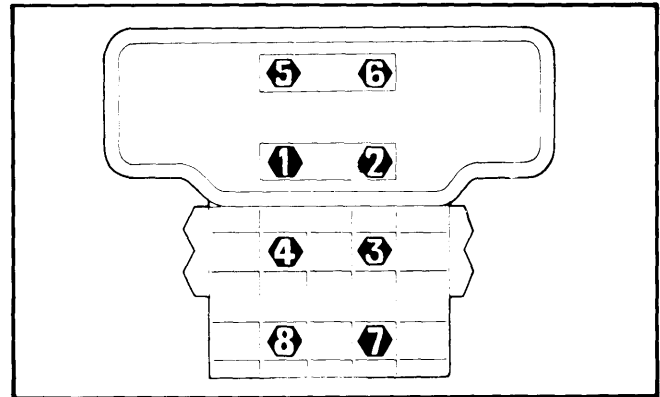

Fig. 7 Tightening Sequence for Main Bearing Nuts
2) Be sure crankcase and block are flush at rear end, and tighten main bearing nuts to 22 ft. lbs. torque. Use sequence shown in Fig. 7. Then back off No. 1 nut and retorquing to 22-25 ft. lbs. Using a protractor tool (5098), tighten nut an additional 73-77°. Continue in sequence retorquing one nut at a time.